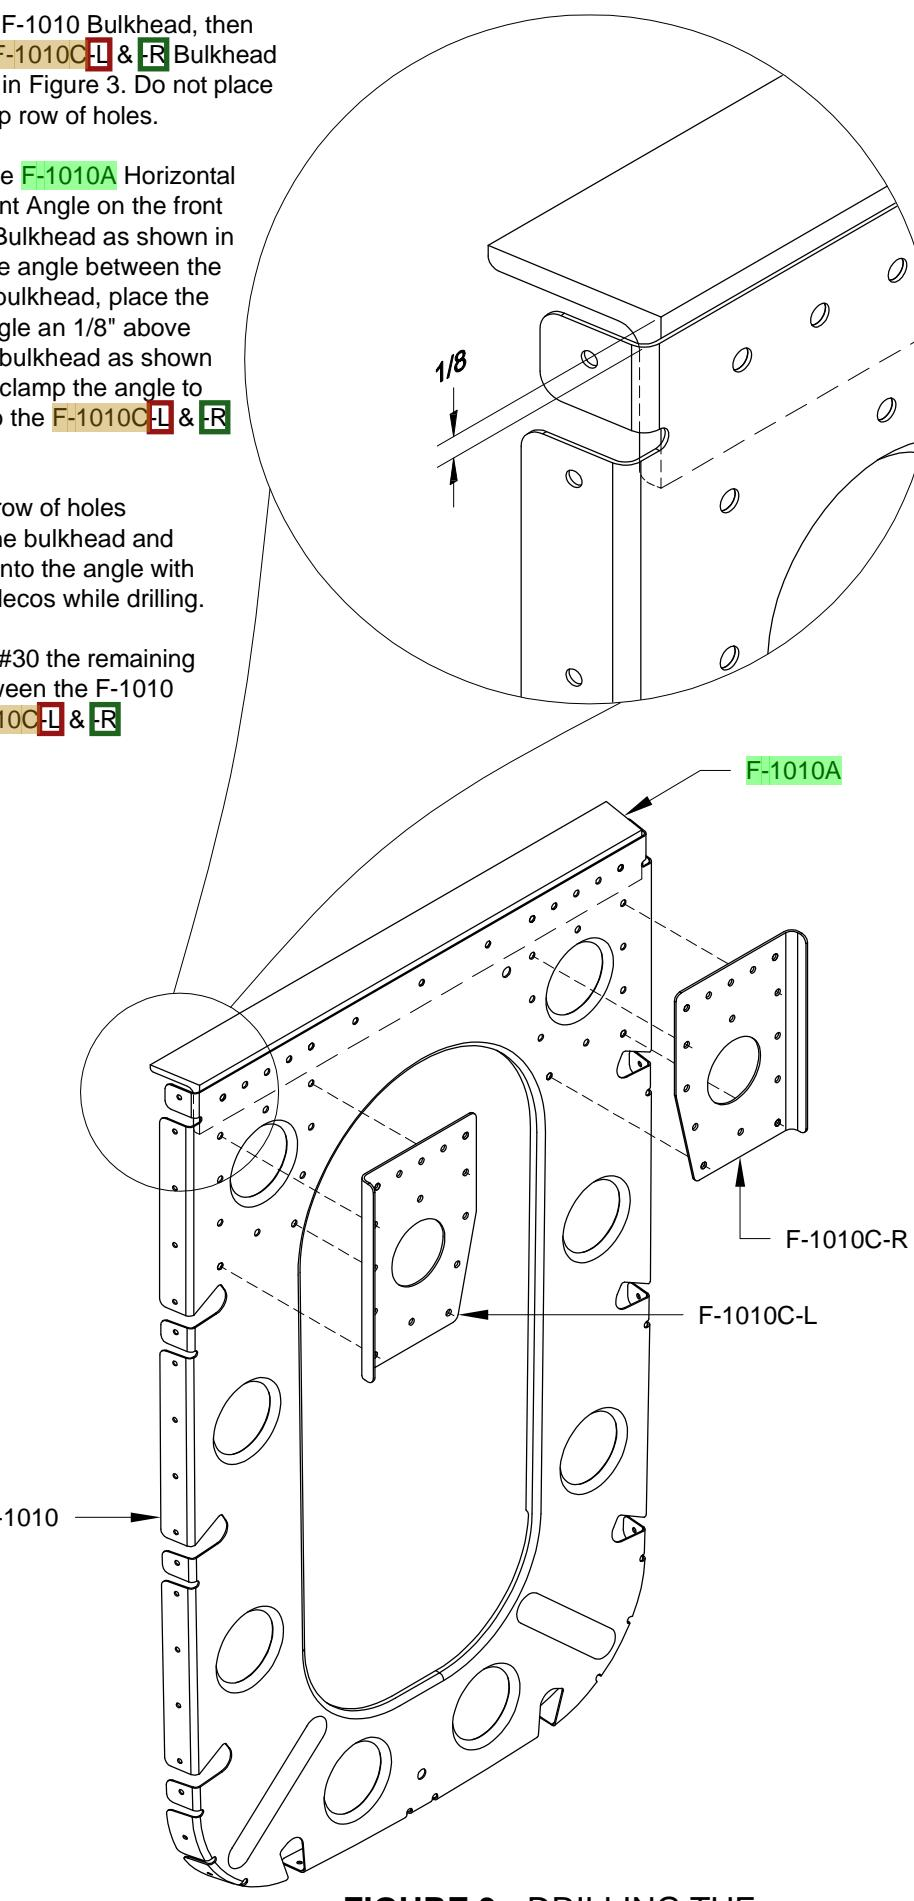

FIGURE 3: DRILLING THE HORIZONTAL STABILIZER ATTACHMENT ANGLE
Step 3: Deburr and flute (if necessary) the F-1008-L & R Frames, then cleco them and the F-1085 Rudder Cable Bracket together as shown in Figure 3. Note that the left frame is positioned in front of the right.